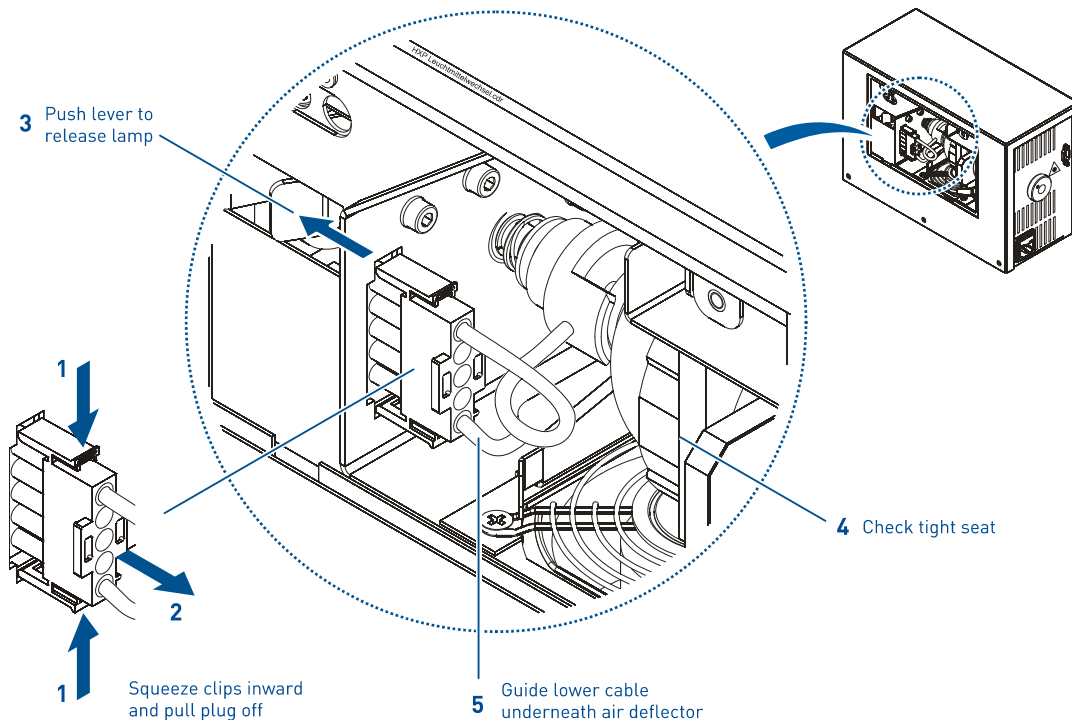

figure 54 How to exchange the illuminant in a HXP illuminator
- Locate the electrical connector and squeeze together the clips that hold the plug in place (1 in figure 54). Then pull the plug out (2)